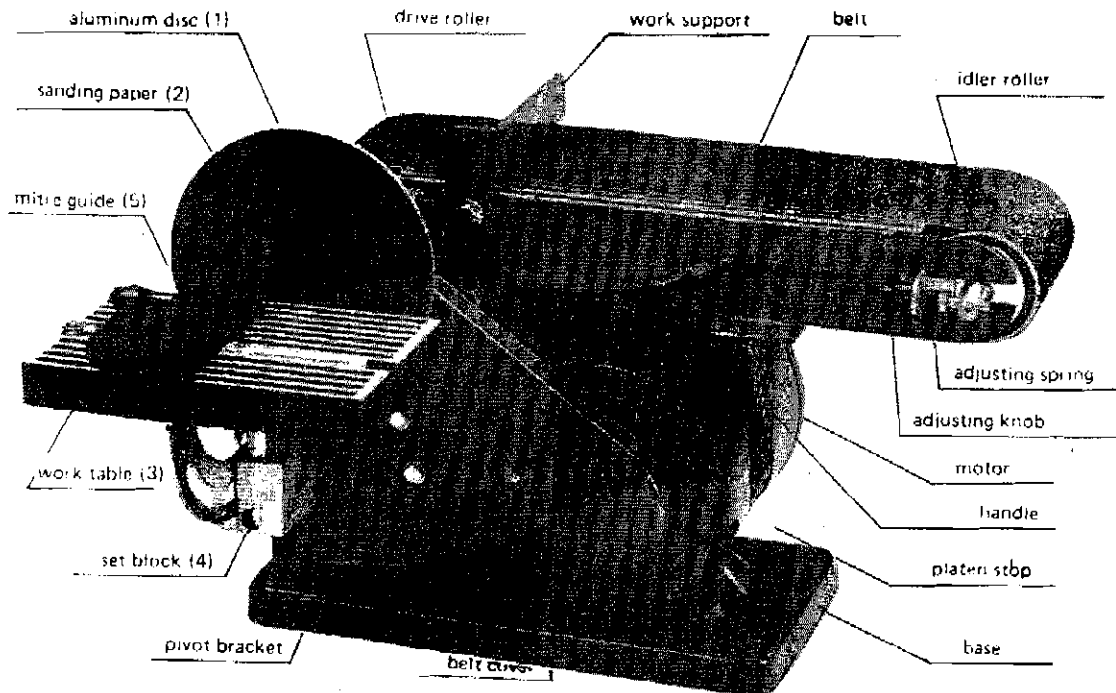

fig. 1
C. BELT AND DISC SANDER (Fig.1)